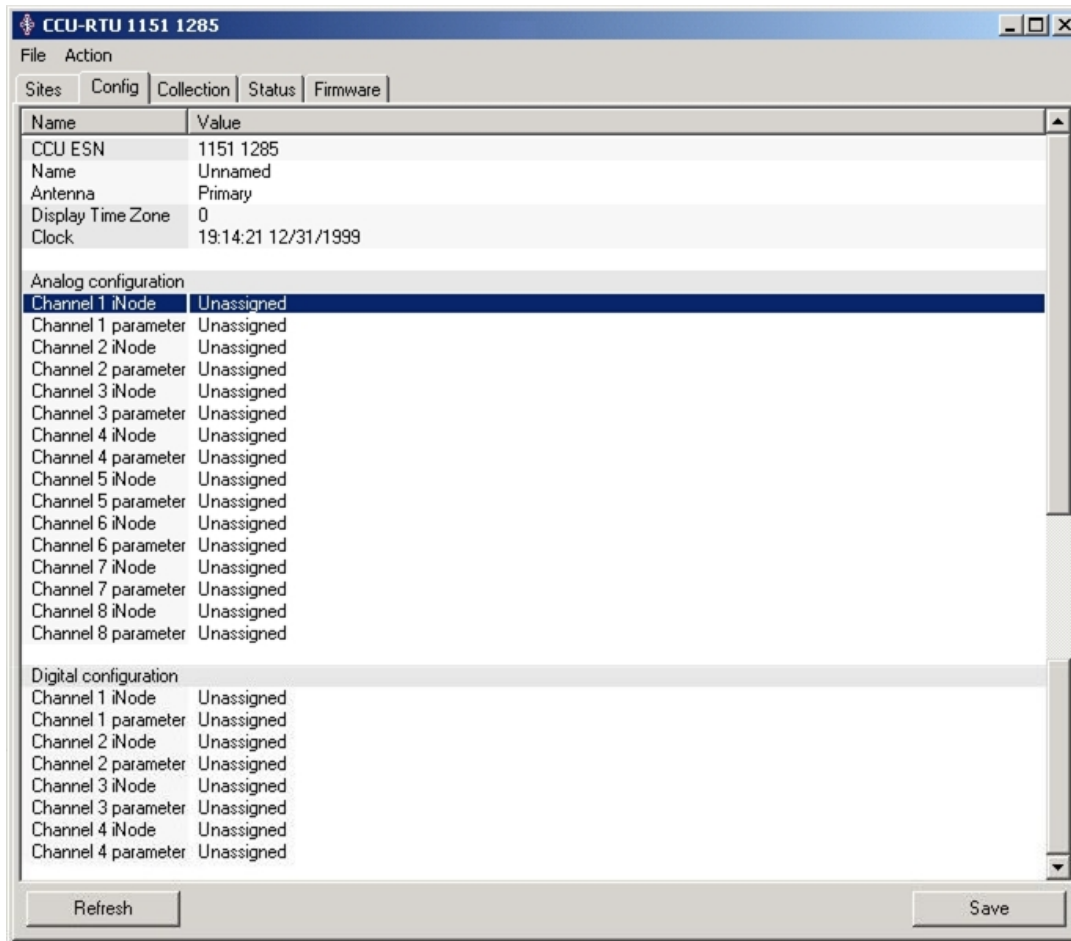

Figure 9. CCU-RTU configuration screen.
- 1) Tap the **Config** tab. The Config screen will appear as shown in Figure 9. (Slide the vertical sidebar down to see all the entries.) Notice that there are eight analog configuration items (iNode, parameter) and four digital configuration items (iNode, parameter).